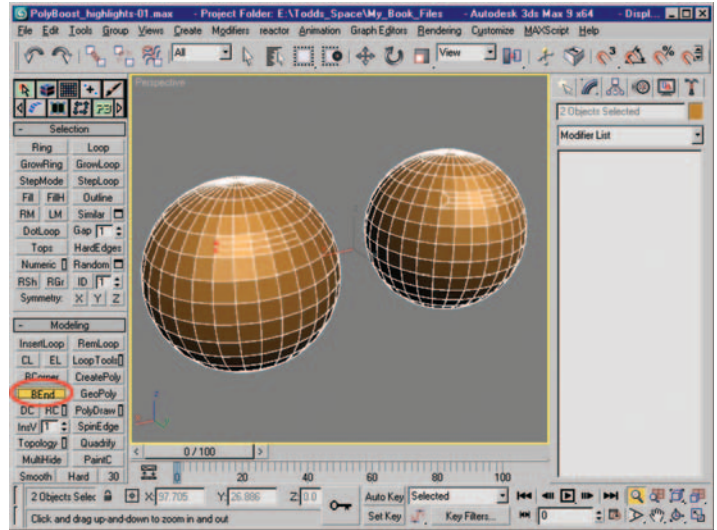

Figure 12.11 Base mesh with vertex selection (left) and resulting mesh after using BEnd (right).
13. Alter the basic sphere mesh to match the object seen in Figure 12.11 (left). Select the two vertices seen in Figure 12.11 (left) and click the BEnd button to create an all-Quad end to the double row of edges. Figure 12.11 (right) shows the resulting mesh after using the BEnd function. BEnd is an abbreviation for Build End.